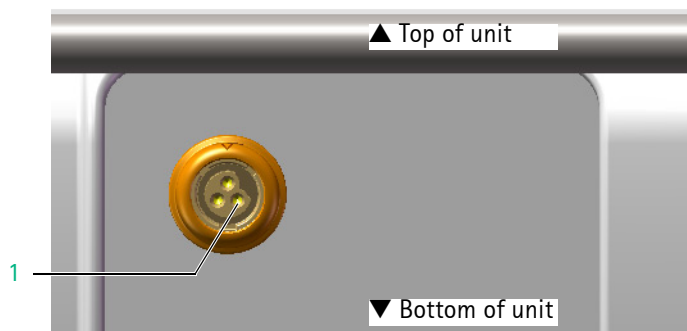

Fig. 4 - 1
1. Measure between mains input and pin 3 (GND) of accessory connector (Fig. 4 - 1 / Item 1).